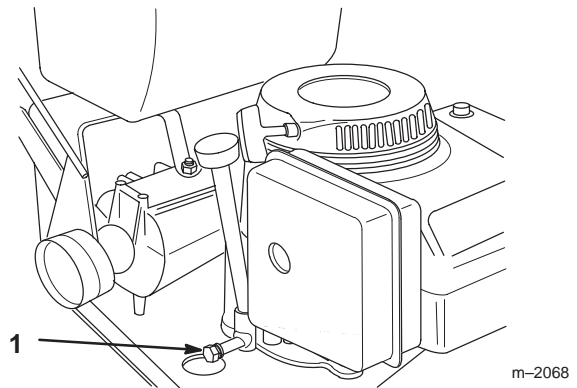

Figure 26
3. Place a pan below the oil drain. Remove the oil drain plug (Fig. 26).